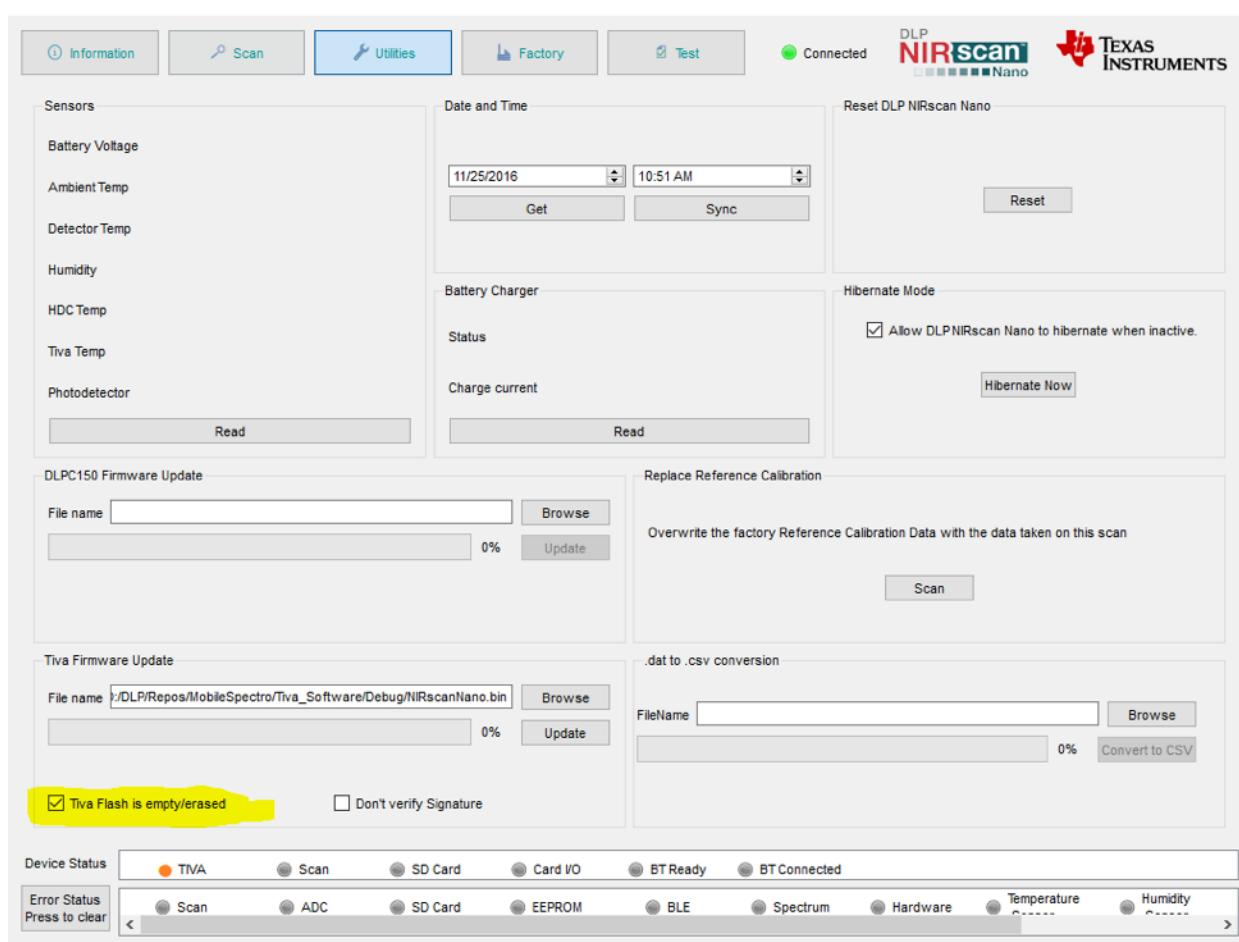

Figure K-2. Uploading New Tiva Firmware
- **NIRscan Nano Updated with Untested/Faulty Tiva Firmware:** The user may modify the Tiva application source code, recompile the source code into binary, and load the binary into the EVM through Tiva firmware update procedure. IF there is a bug in the updated software, the application may become unresponsive to USB and/or Bluetooth commands. To work around this issue, Tiva firmware v2.1 or later includes a feature that will put the software in boot loader mode by pressing and holding the scan button on the EVM while the unit is powered up or reset. Once in bootloader mode, the GUI can be used to load the EVM with an updated version of the Tiva firmware. To upload new software, check the "Tiva Flash is empty/erased" checkbox shown in Figure K-2.